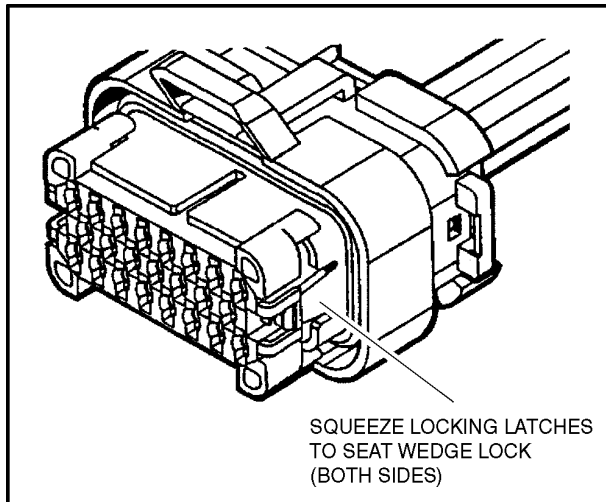

Figure 8-8. Connector Assembly (3 of 4)
3. After all required contacts have been inserted, the wedge lock must be closed to its locked position. Release the locking latches by squeezing them inward (See Figure8-8. Connector Assembly (3 of 4)).)